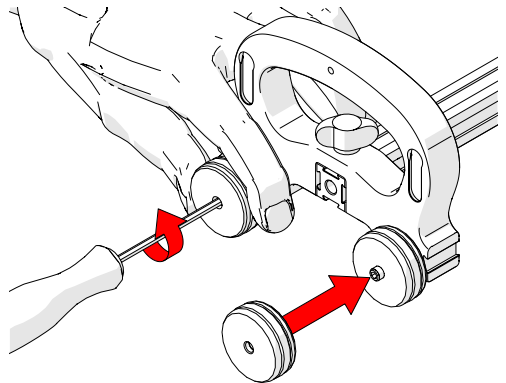

Fig. 31 - Wheel installation
6. To install a second magnetic wheel, locate the threaded side of the magnetic wheel, and orient the threaded side towards the scanner. Overcome the magnetic resistance to screw the additional wheel to the axle of the wheel block with handle (Fig. 31).